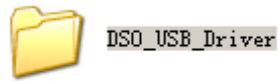
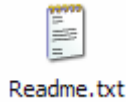

Figure 1-8
Figure 1-9
Step 1 : Insert the CD-Rom supplied with your oscilloscope in the CD-Rom disk drive of the computer. Wait for the system to read the CD-Rom and find the DSO_USB interface driver (Figure 1-8).
Open the software package shown in Figure 1-8 and read the installation instructions carefully (Figure 1-9). Select the driver corresponding to your oscilloscope.